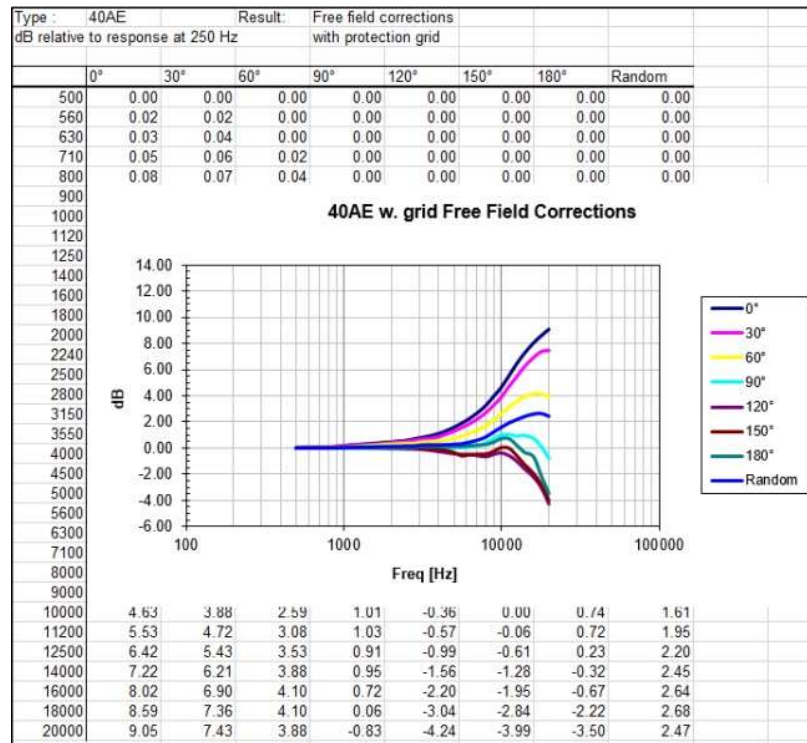

Figure 1. Typical Free-field corrections chart for a GRAS measurement microphone at different angles of incidence. Random incidence correction is also shown.
1) Due to its convenience and ease of implementation, the electrostatic actuator method is one of the most common methods used to obtain the pressure frequency response of a measurement microphone. When calibrating a free-field or random incidence microphone, the pressure frequency response will be measured first and then its free-field/diffuse-field response will be calculated by adding the free-field/random-incidence corrections to the pressure response (See Figures 1, 2 and 3):